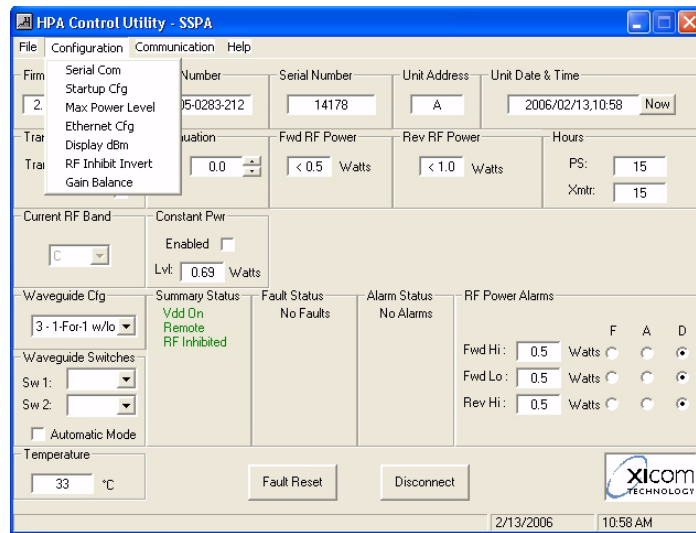

Figure 20, Configuration Menu
4. Refer to Figure 20. The Amplifier Configuration menu allows the configuration of the amplifier's COM ports, the startup configuration, the Maximum power level, Ethernet configuration, and the types of power units used for Forward Power, Reverse Power, and the RF Power Alarms.